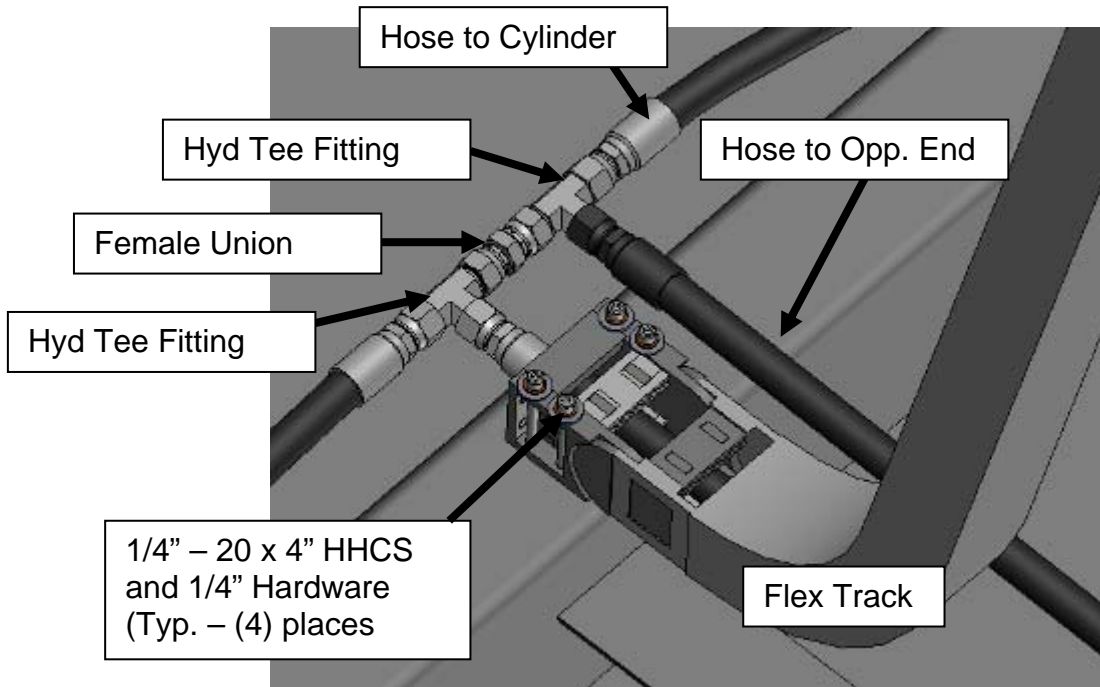

Figure 28 Hosing Between Flex Track and Tee
15. Make sure there is at least 1/8" running space between the cylinder casings and the synchronization chains that run on either side of the cylinders (see **Figure 28**).
4. Attach the flex track to the cross tube using the four (4) supplied #10-24 SHCS and hardware as shown in **Figure 28**.
5. Connect hoses from the Flex Track to the hydraulic tees mounted to the underside of the carriage as shown in **Figure 28**.